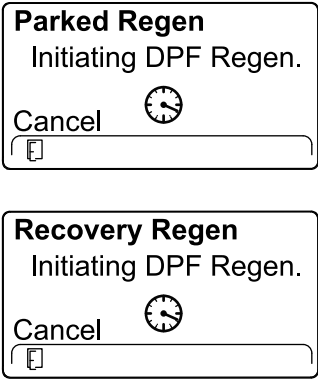

Figure 53
- The InfoCenter displays the INITIATING DPF REGEN message (Figure 53).